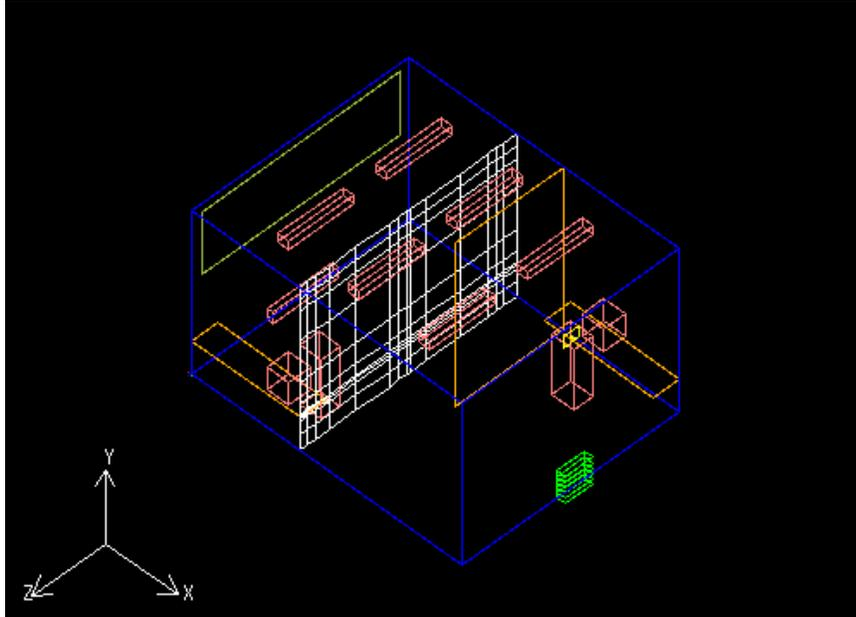

Figure 1.6: Coarse Mesh on the  $y$ - $z$  Plane
*The mesh display plane is perpendicular to the ceiling, and aligned with the people, computers, and tables as shown in Figure 1.6.*